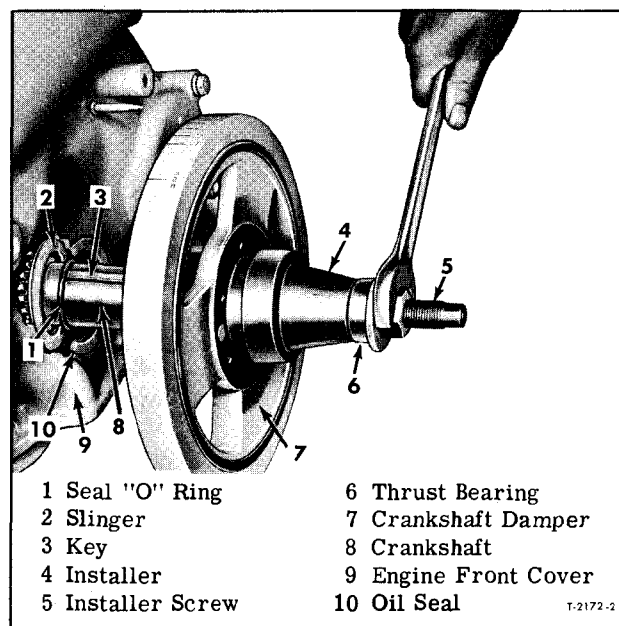

Figure 5—Installing Damper on Crankshaft with Special Tool Set
2. On 637 engine check position of O-ring seal (1, fig. 5) which should be located approximately 1/4" from slinger (2, fig. 5) so it will roll into coun-
3. Align keyway in pulley with key in crankshaft, then start pulley or hub onto front end of crankshaft. Assemble special installer typically shown in figure 5, and turn nut with wrench to force pulley firmly into place on crankshaft.